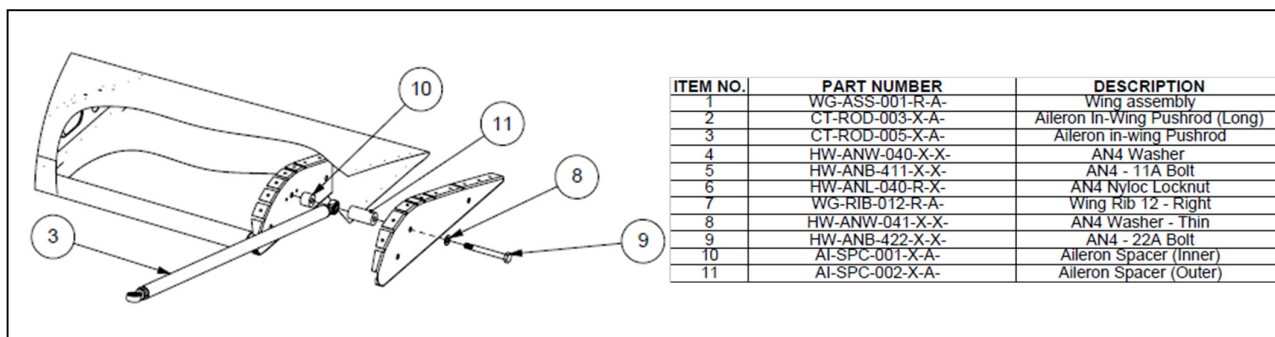

Figure 10: Aileron leading edge eyebolt assembly
- Step 13. For the eyebolts located at the ailerons leading edge, remove the AN4 bolt (9) shown in Figure 10. To access this bolt, you will need to drop the flap. To do this follow steps 1 and 2 *only*, of the flap removal procedure (Option1). This procedure can be found in the applicable MAM shown in the table below. Remember to support the flap during this step as it may drop.
- Step 14. After bolt (9) has been removed, the eyebolt can be replaced with either a *type 1* or *type 2* eyebolt. Reconnect it to the aileron and pushrod (3), as shown in Figure 10. Support the aileron during this step as it may drop once the eyebolt has been removed.